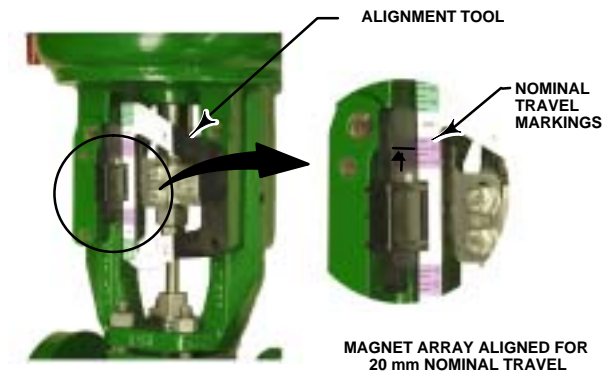

Figure 2-9. Air-to-Close Fisher GX Magnet Array Alignment
3. Find the mark on the upper travel scale that corresponds with the actual valve travel. See figure 2-9.